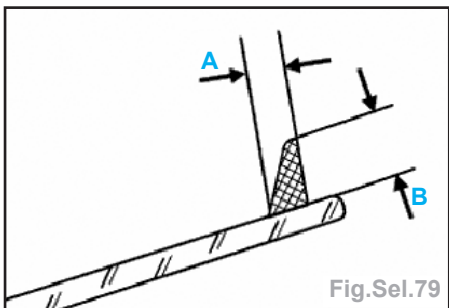

Fig.Sel.79
- Monter un nouveau joint de glace fixe (3).
- Forme du cordon de colle (fig.Sel.79):
- (A) = 7,0 mm.
- (B) = 12,0 + 1,0 mm.